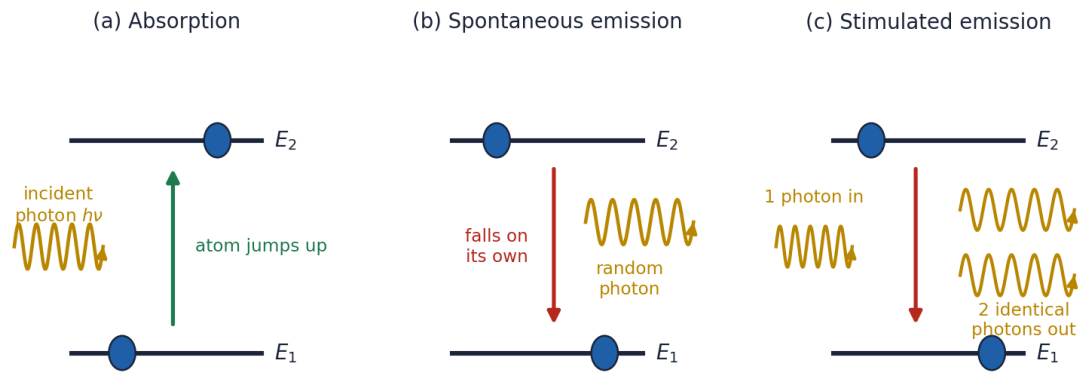

Figure 1.1 — The three radiative processes between two energy levels E_1 and E_2 .
- A 4-mark question almost always means: define all three processes, then draw Figure 1.1. Draw the diagram first — it organises your answer.